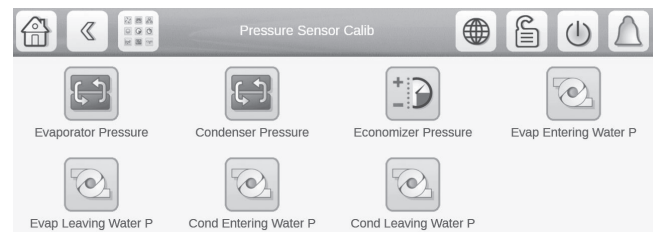

Fig. 50 — Pressure Sensor Calib Screen, Page 1
1. Go to *Main Menu* → *Maintenance Menu* → *Pressure Sensor Calib*. See Fig. 50 and 51.
1. Go to *Main Menu* → *Maintenance Menu* → *Temp Sensor Calib*. See Fig. 50.